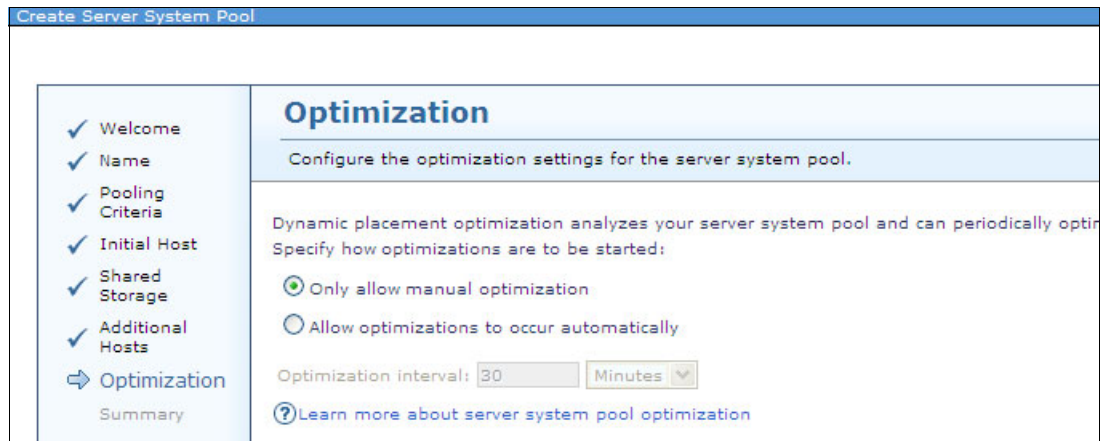

Figure 10-108 Optimization window
- When you deploy a new virtual server in the server system pool, FSM deploys that server on the correct physical server automatically if you select **Allow optimizations to occur automatically**, as shown in Figure 10-108.